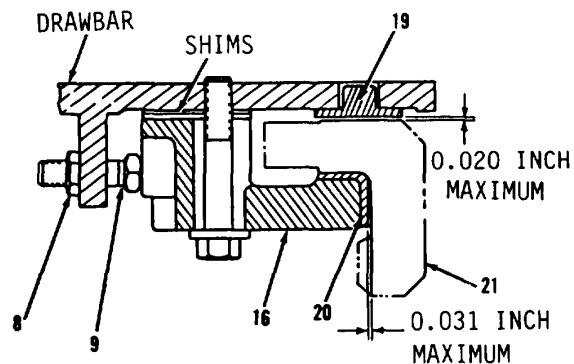

Figure 12-27.
9. With the shoes (16) and shims (18) in position on drawbar, adjust four shoes (16, Figure 12-27).
10. Loosen nuts (8) on setscrews (9).
11. Tighten setscrews (9) until the shoes are against the inside of the circle.
12. Loosen setscrews (9) until the circle is just free to turn.
13. Tighten nuts (8) on setscrews (9).